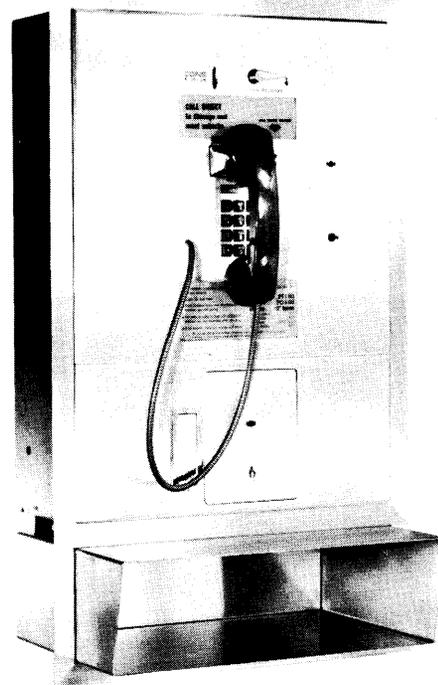

Fig. 1
2.02 Figure 1 illustrates a 2C2 coin telephone installed in a BPH-R-DF housing. This is the fully recessed model with the directory facility. Add five inches to the height of the wall opening for the directory facility and 6-1/32 inches to the overall height of the housing.